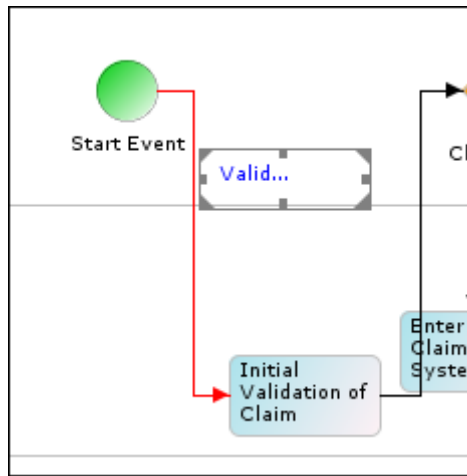

Figure 39: Repositioning Control Flow Label
- Use the desired arrow key to move the activity element in the preferred direction (see Figure 39).